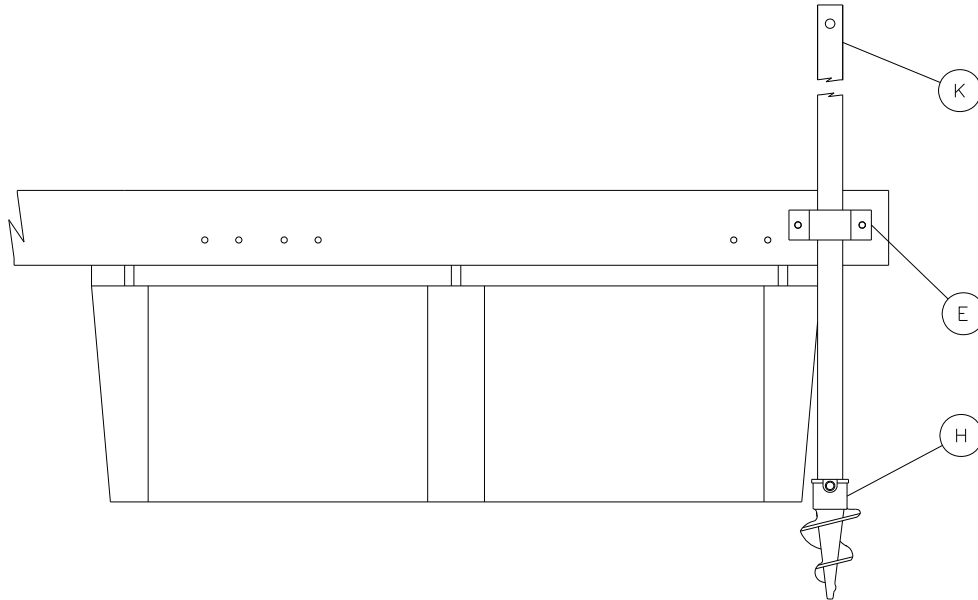

Figure 3-6
2. (Refer to Figure 3-6) Place either end of the selected dock pipe (K) through the pipe sleeve (E). Place pipe auger over bottom end of dock pipe. Align threaded hole in pipe auger with hole in dock pipe. Tighten fastener securely.
3. Using the pre-drilled hole near the top of the dock pipe (K), insert a large screwdriver, and turn clockwise. The auger will dig into the lake bottom. Continue to turn dock pipe until it feels sturdy.